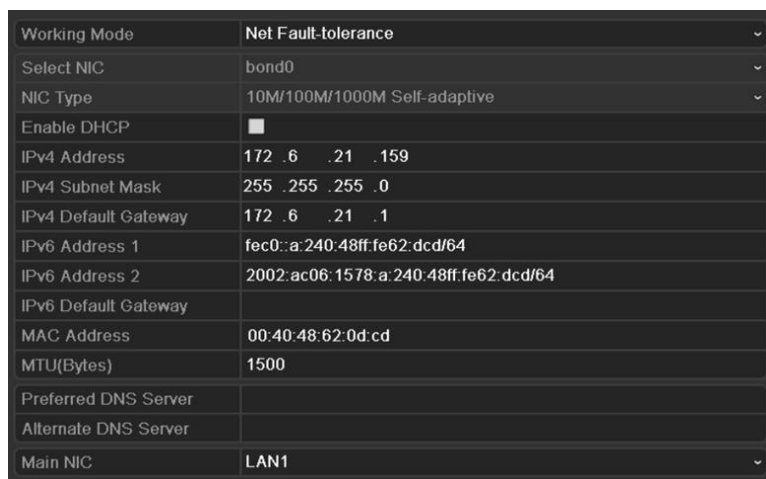

Figure 9. 20 Network Settings Interface
2. Set the IPv4 Address, IPv4 Subnet Mask, IPv4 Gateway and the Preferred DNS Server in the Network Settings menu, as shown in Figure 9. 20.